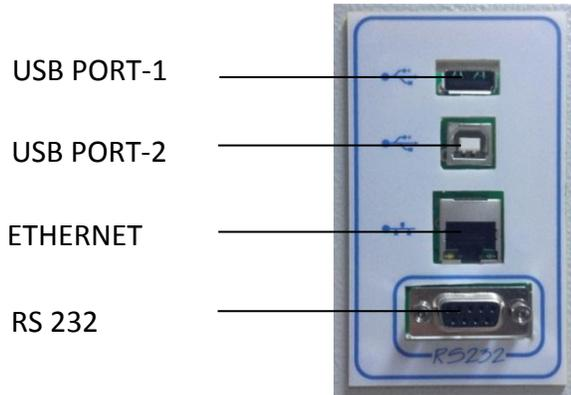

Figure 6 – Communication Unit
There are 4 outlets on communication unit (Figure 6). The function of each outlet is explained in the following sections.
USB Stick is connected to USP port-1 of the communication unit (Figure 6). “” appears on the operating mode screen when the USB stick is identified by the microprocessor system.
- Connect the end of RS 232 cable of GSM module (See Figure 7) to RS 232 port on the device (See Figure 6).